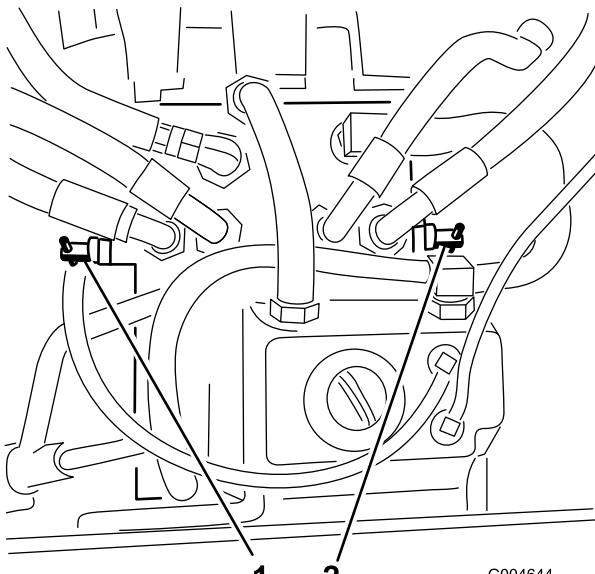

Figure 37
3. Rotate each by-pass valve counterclockwise 1 turn (Figure 37).
Rotate each by-pass valve clockwise 1 turn and hand tighten them (torque of approximately 71 in-lb (8 N·m)) (Figure 37).